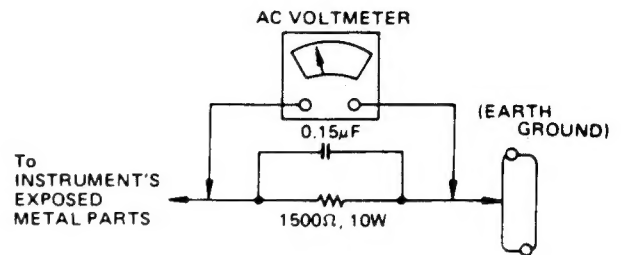

Figure 1
- 5-2 Connect a 1500 ohm, 10 watt resistor, paralleled by a 0.15 $\mu$ F capacitor between each exposed metallic part and a good earth ground (as shown in Figure 1).